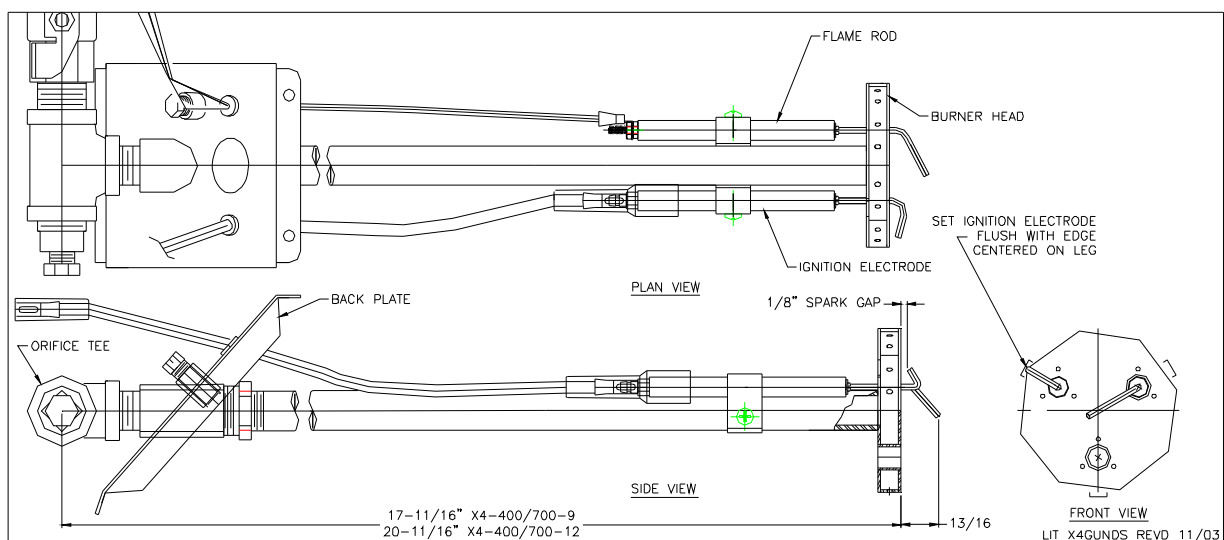

Figure 9: Detail Direct Spark Gun Assembly
7.13.1 Before attempting burner start up make certain that you are familiar with the operation of the Primary Safety Control and other components being used on this specific application. Refer to Figure 9 to verify the correct position of the ignition electrode placement since shipment may have altered the placement.